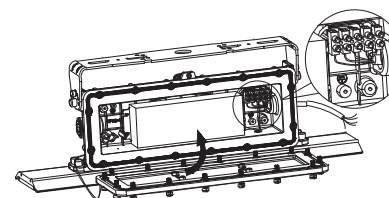

Figure 0-3
6. Lock the driver box cover with screws (The operator should use torsion that over 2.5 N.M) .(Figure 0-3)